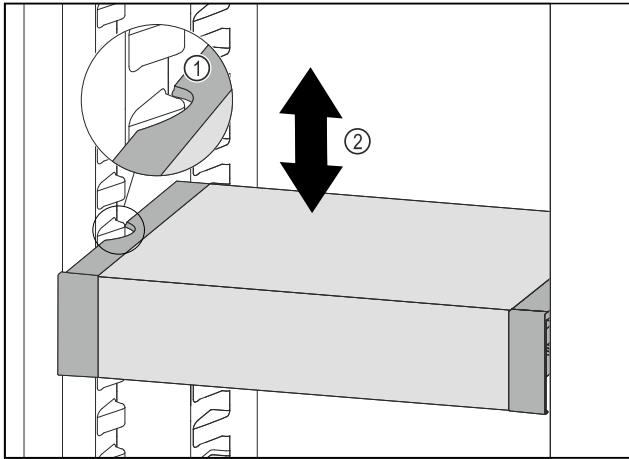

Fig. 85
- ▶ Pull VarioSafe forwards until the recesses in the side of the VarioSafe are at the level of the support rib in the refrigerator compartment. *Fig. 85 (1)*
- ▶ Move VarioSafe up or down in the refrigerator compartment until the desired height is reached. *Fig. 85 (2)*